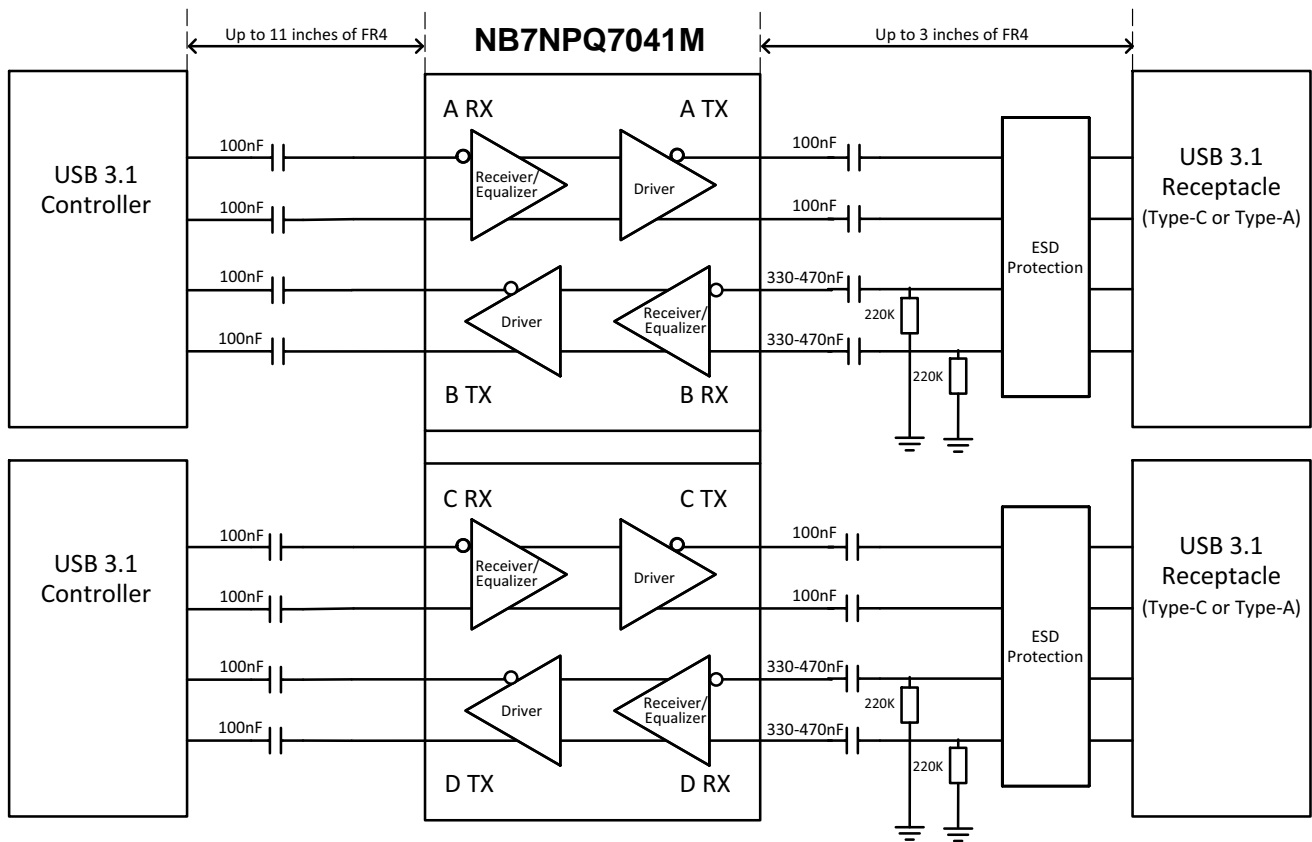

Figure 5. Typical Application
| AC Coupling Capacitors (TX)            | 100 nF nominal, 75 nF to 265 nF, see Figure 5                          |